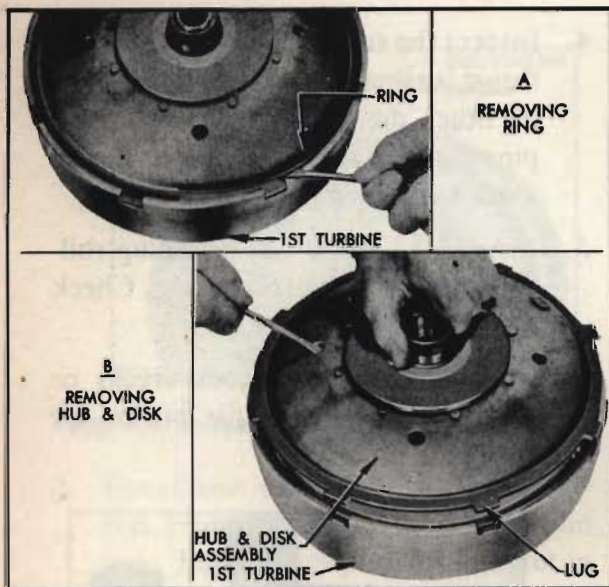

Fig. 4. Removing disc and hub assembly
1. Using a screw driver, pry the retaining ring out of the groove in the first turbine. Insert a screw driver in hole in disc and lift disc out of first turbine (Fig. 4).
8. Install second turbine and carrier assembly into first turbine. Install the first turbine disc and hub assembly over the second turbine (Fig. 4).
10. The turbine disc retaining ring is "dished". Install the retaining ring with "dished" side up so that inner edge will bear against the disc when the ring is installed in groove of first turbine (Fig. 4).